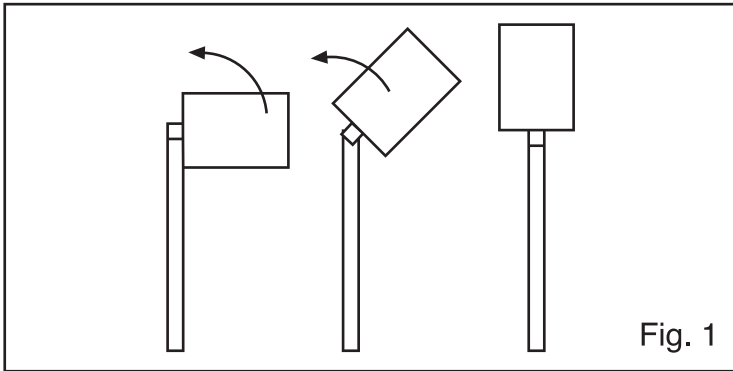
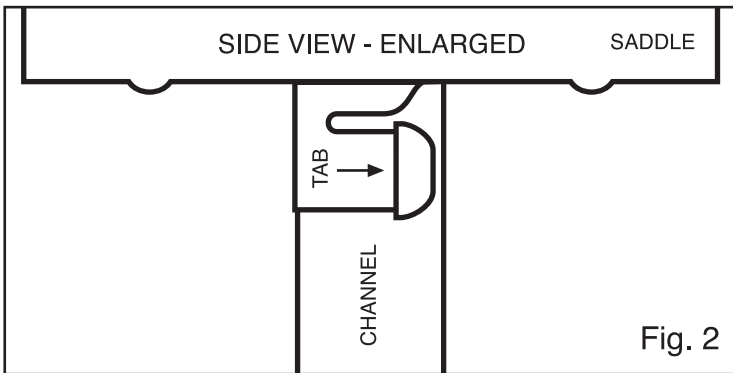

Fig. 1
Fig. 2
STEP 1 - BEND SADDLE INTO UPRIGHT POSITION (Fig. 1) AND LOCK INTO PLACE (Fig. 2)
STEP 1 - APPROXIMATE HEIGHT OF DUCT/DISTANCE FROM RAFTER USING NYLON STRAPPING. CUT NYLON STRAPPING LEAVING SOME EXCESS TO FOLD OVER PRIOR TO SECURING TO RAFTER (Fig. 1)
STEP 2 - THREAD NYLON STRAPPING THROUGH SLOT ON ONE SIDE OF DUCT SADDLE SLING ENTERING THROUGH THE INSIDE OF THE SLING (Fig. 2)